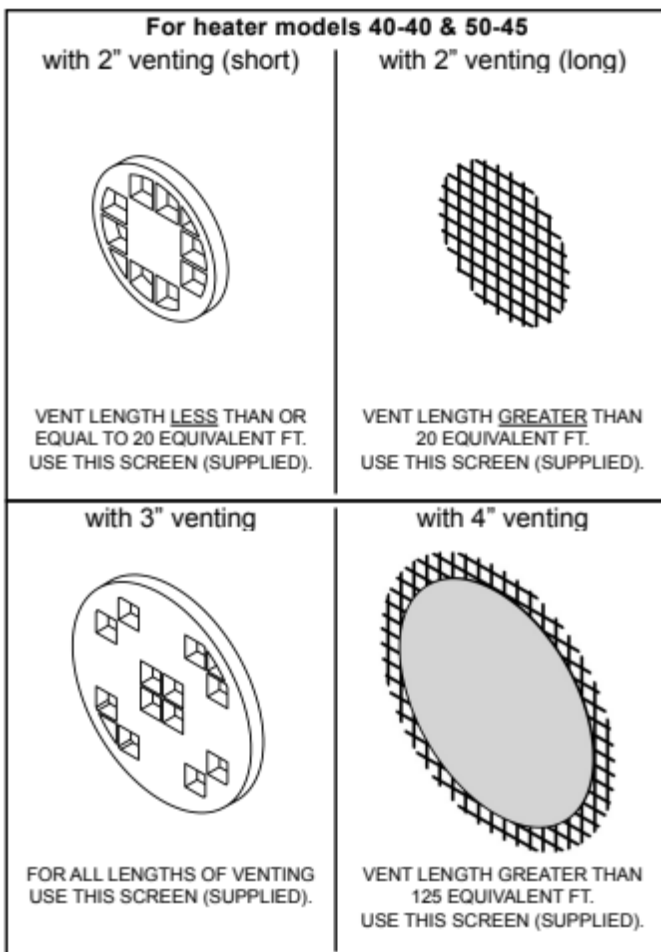
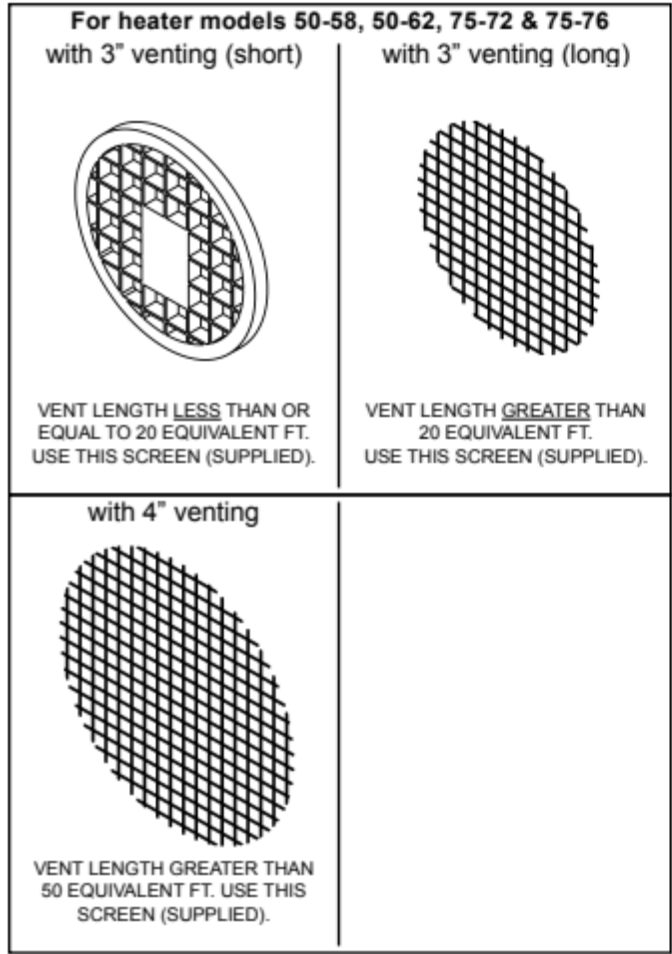

Figure 36.
Figure 37.
* see Figure 36 and Figure 37
Use the appropriate vent termination screen as shown in Figure 36 & Figure 37. Install the vent termination screen in both the air intake pipe and the exhaust pipe.
This water heater includes one (1) pair of more restrictive vent screens and one (1) pair of less restrictive vent screens (see Figure 36 & Figure 37). For safety and optimum efficiency performance, ensure the correct vent screen is installed for the vent length in your installation. A vent screen is required to keep foreign objects, rodents and small birds from entering the venting system. These screens have been sized to ensure maximum energy efficiency of the vent system based on the "equivalent length" of the vent piping. **CHOOSE ONLY the ONE SCREEN THAT MATCHES YOUR VENTING CONFIGURATION** (see Figure 36 & Figure 37). The vent screen **MUST** be installed for proper operation of the water heater. How to determine the "equivalent length" is shown in Table 4.
- Supplied with this heater are several vent screens (see Figure 36 & Figure 37).